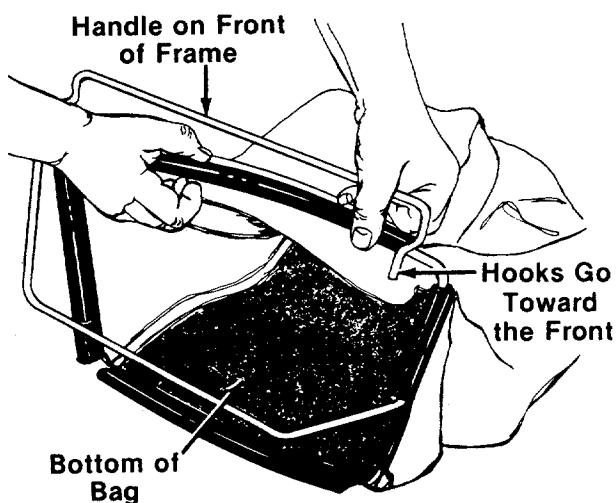

FIGURE 12.
1. Place bag over frame (black plastic side is the bottom of bag). Handle on frame goes to the top of bag. Hooks go toward the front. See figure 12.
2. Secure bag to frame by slipping plastic channels on bag over frame. See figure 12.